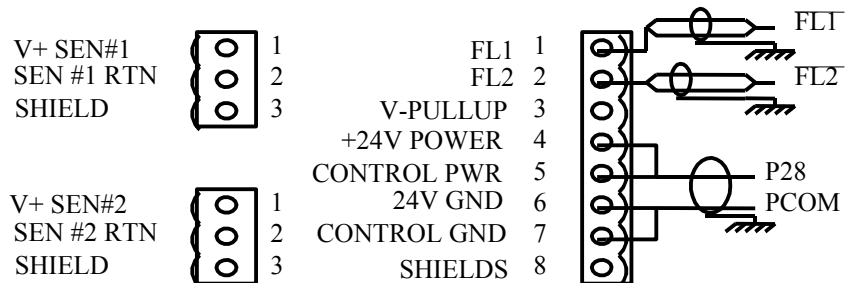

FIGURE 2 - TYPICAL WIRING DIAGRAM FOR FSM-1002-001
2.2.2 In most applications the FSM-1002-001 interface module will be replacing a Honeywell or a McGraw Edison flame detector module. Please refer to Figure 2 for the interface module terminal identification. The positive and negative connections from the 24 volt power to the existing system should be connected to terminals 4 and 6, respectively, of the “OUT 1/2” and “OUT 3/4” connectors. The connection should be made with 18 gauge (1.02 mm) shielded twisted pair cable. Install a jumper between terminals 4 (“24V POWER”) and terminal 5 (“CONTROL POWER”) on both connectors. Install another jumper between terminal 6 (“24V GND”) and terminal 7 (“CONTROL GND”) on both connectors. Separate power cables should be used for each circuit to provide redundancy. If redundancy is not required, then jumper the power supply terminals 4 and 6 of “OUT 1/2” to terminals 4 and 6 of “OUT 3/4.” At the controller end of the power cable connect the +24 volt wire to the P28 terminal, or other +24 volts source, and the 24 volt common to the PCM terminal, or other power supply common terminal.. Connect the shield to the appropriate shield termination point on the controller panel. The 24 volt supply should be fused between 1 and 3 amps.